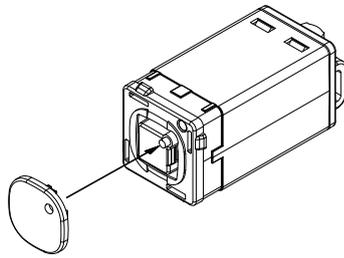

Fig 1: Installing Button to unit
- Clip the button on to the HNS026RB. Ensure that the button is oriented so that the LED light pipe is aligned with the hole in the button, before attaching it to the wall plate. Refer to Figure 1 and 2 below.